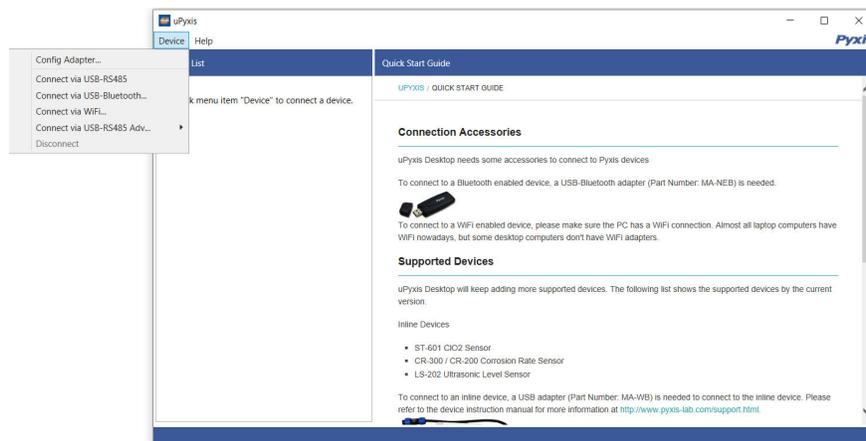

Figure 68.
4. On **uPyxis®** Desktop App, click Device → **Connect via USB-Bluetooth** (Figure 68).
5. If the connection is successful, the SP-710 and its Serial Number (SN) will be displayed in the left pane of the **uPyxis®** window.